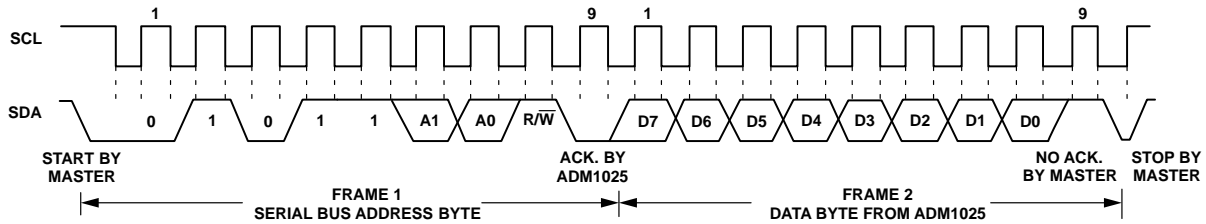

Figure 12. Reading Data from a Previously Selected Register
2. In Figure 10 to Figure 12, the serial bus address is shown as the default value 01011(A1)(A0), where A1 and A0 are set by the three-state ADD pin.